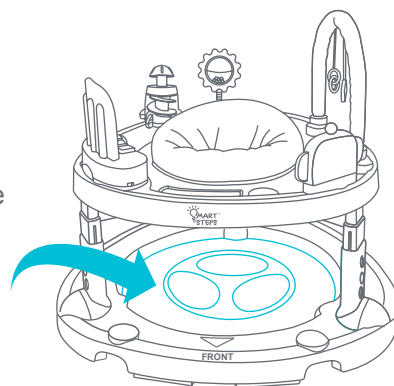

Fig. 10
- Insert the Tippy Tap Dance board into the bottom platform (Fig. 10). **NOTE:** Ensure to push down once it lays flat.